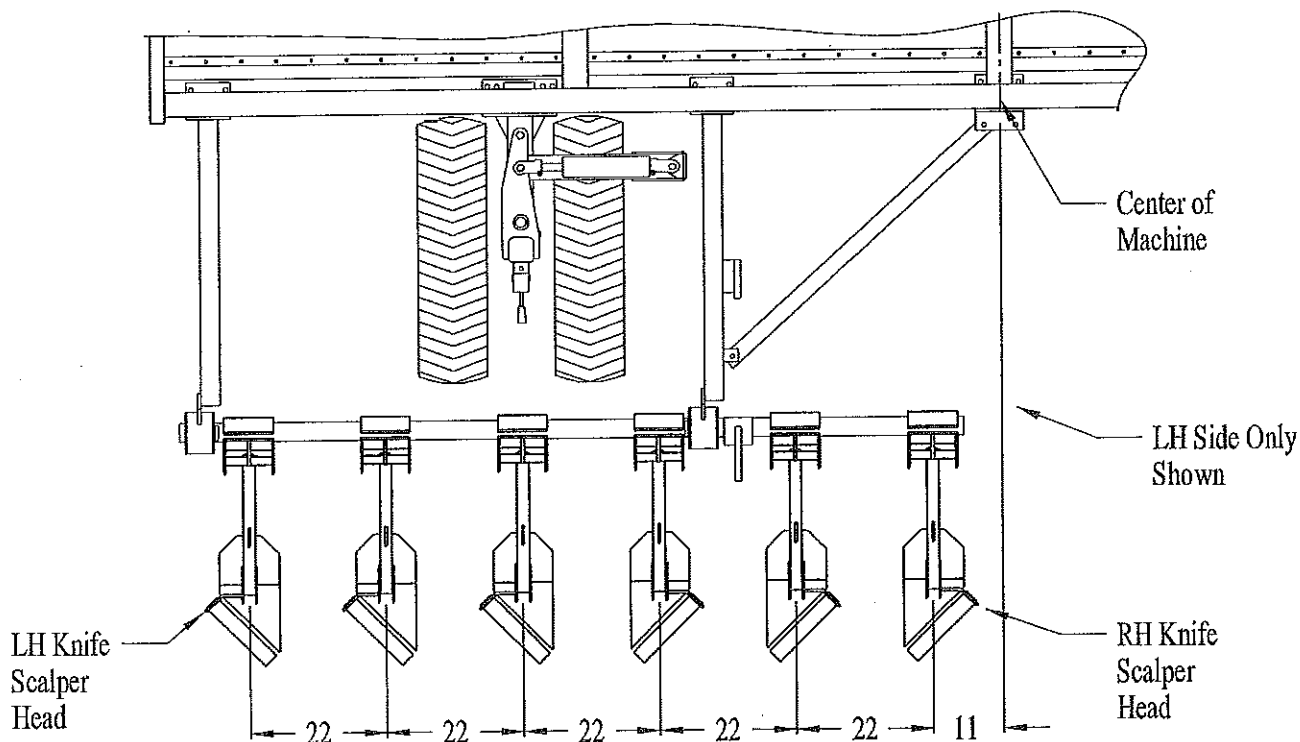

Figure 2.
4. Bolt the scalper head assemblies to the tool bars. Figure 2 shows the correct position (knife scalpers are illustrated). Note the position of the LH & RH knife scalpers.